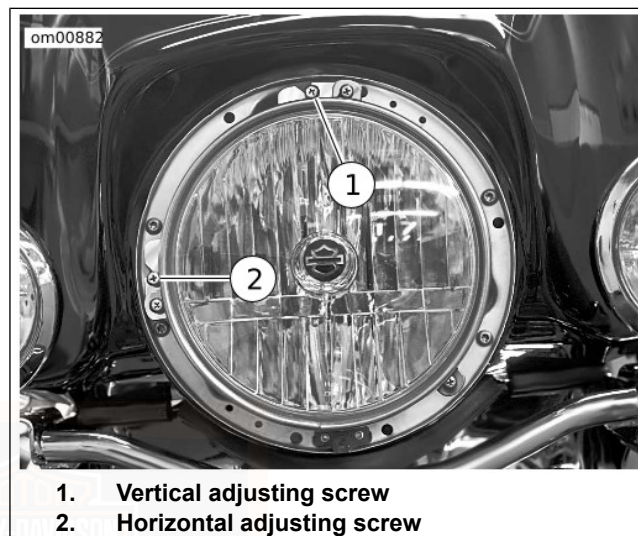

Figure 64. Headlamp Adjustment: FLHT, FLHX, FLHTC, FLHTCU, FLHR and FLHRC
2. See Figure 64. Adjust beam.
- a. **Horizontal:** Turn the vertical adjusting screw (1) to adjust headlamp vertically.
- b. **Vertical:** Turn the horizontal adjusting screw (2) to adjust headlamp horizontally.